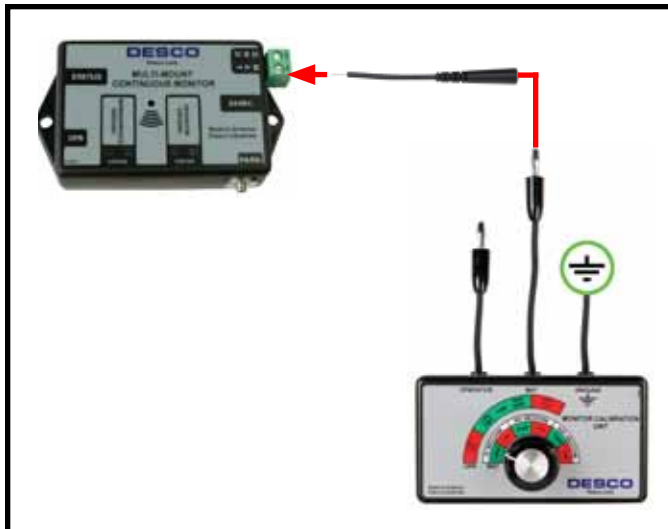

Figure 9. Connecting the MAT test lead from the Monitor Calibration Unit to the Multi-Mount Continuous Monitor
Step 2: Connect the included banana jack to wire adapter to the Calibration Unit's banana plug labeled “MAT.” Insert the other end of the wire to the monitor's green terminal block labeled “MAT” (see Figure 9).